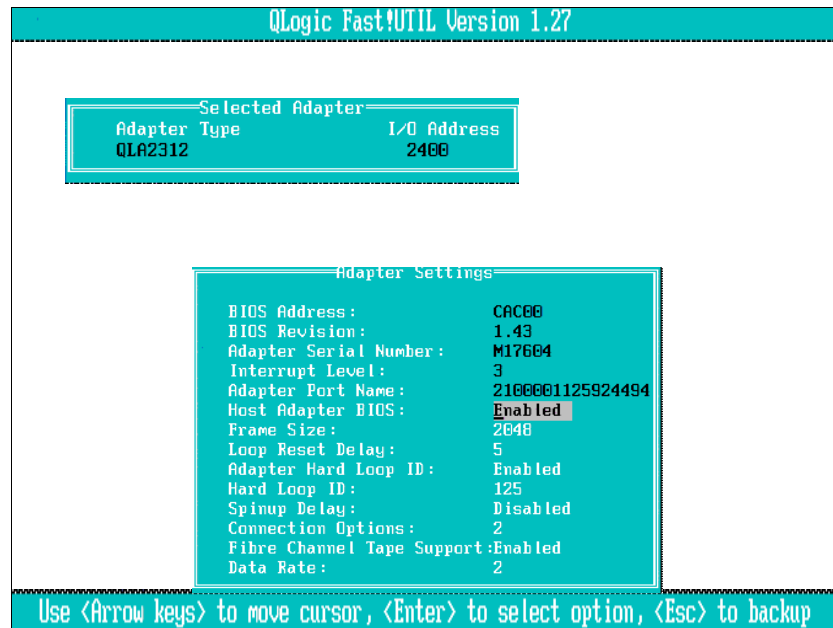

Figure 5-49 Host Adapter Settings
3. Select **Configuration Settings**, and then **Host Adapter Settings**, to bring up the *Adapter Settings* window, as shown in Figure 5-49.